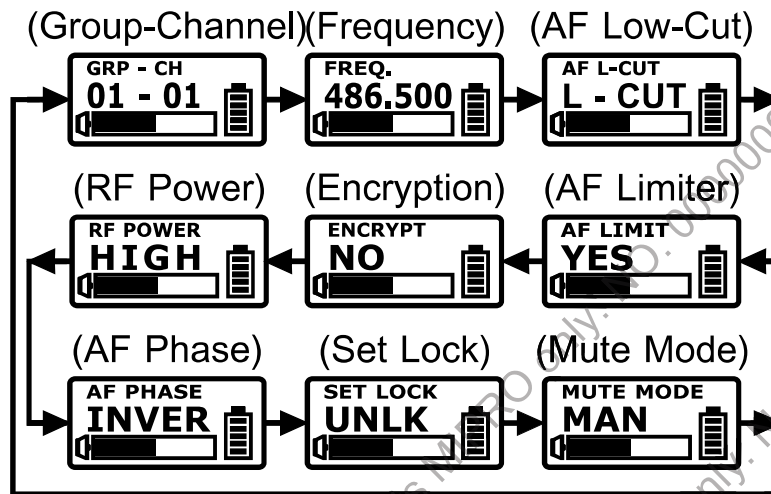

Fig. 10
- ①⑥ Functions
- ①⑦ Parameters
- ①⑧ Battery Status
- ①⑨ Audio Signal Level Bar
2. ACT-800T LCD. Fig. 10